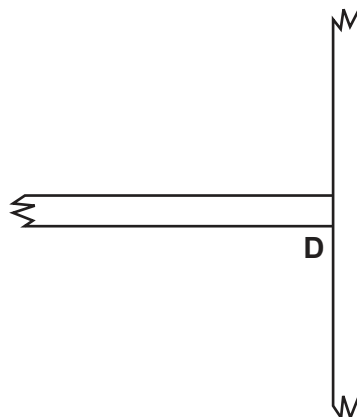

Fig. 10.5
- (iii) Using sketches and notes, complete Fig. 10.5 to show a strut at joint **D**.